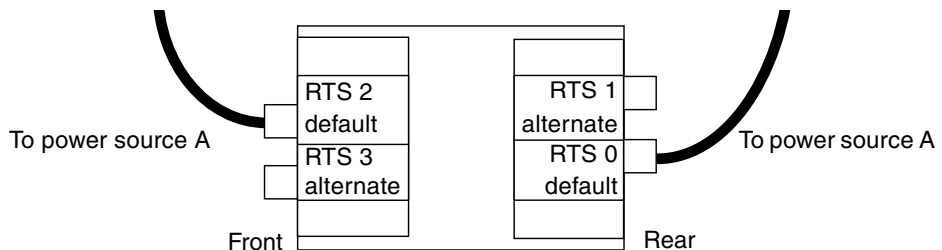

FIGURE A-7 Two RTU Assemblies and One AC Power Sources
- In configurations with two RTU assemblies and one AC power sources there will be two cables to connect, one in the front (on the left), and one in the rear of the system (on the left) (FIGURE A-7).